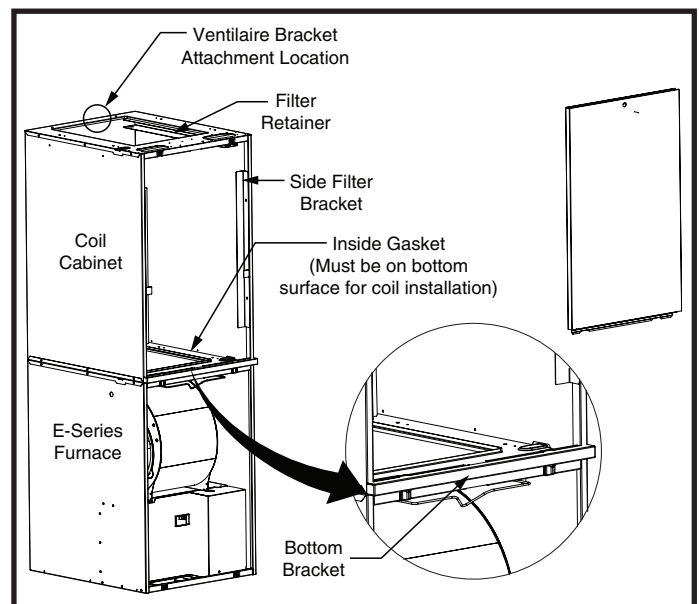

Figure 3. Downflow Installation
3. Place coil cabinet on top of the furnace and align all 4 sides. **NOTE:** Make sure the inside gasket surface is on the bottom, the gasket on the outside of the cabinet remains intact, and airflow passage between the furnace and coil cabinet are aligned and unrestricted. See Figure 3.
4. Attach Vetilaire bracket to the back of the coil cabinet at the location shown in Figure 3. Make sure the opening of the bracket is over the opening of the cabinet.
8. Install the bottom bracket (white painted) by placing the tabs over bottom edge of coil cabinet as shown in Figure 3.
NOTE: Make sure the inside gasket surface is on the bottom, the gasket on the outside of the cabinet remains intact, and airflow passage between the furnace and coil cabinet are aligned and unrestricted. See Figure 3.
9. Install the bottom bracket (white painted) by placing the tabs over bottom edge of coil cabinet as shown in Figure 3.